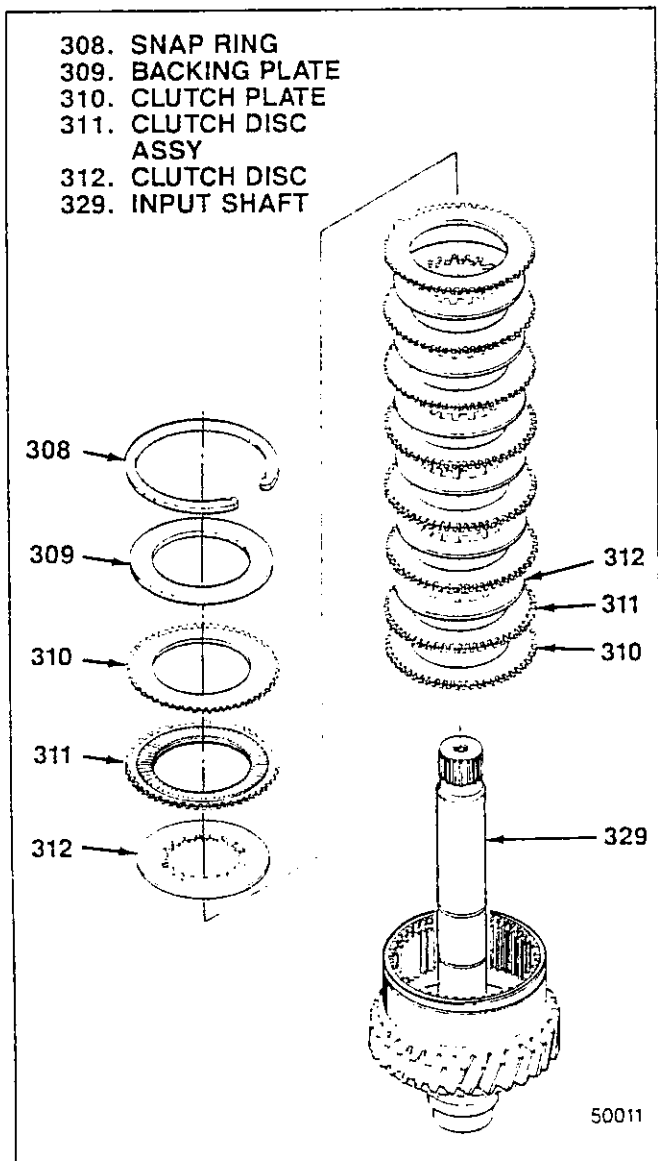

Figure 5-7. Input Clutch Group
**5-10. ASSEMBLY OF CLUTCH GROUP.** With shaft assembly in holding fixture as described in paragraph 5-9, proceed as follows (see figure 5-7):
1. Align splines and install one clutch plate (310) over input shaft (329), into clutch gear cylinder (315).
2. Starting with one clutch disc assembly (311), alternately install eight clutch disc assemblies and seven clutch discs (312).
3. Install remaining clutch plate (310) and backing plate (309).
4. Secure clutch group in clutch gear cylinder (315) with snap ring (308).